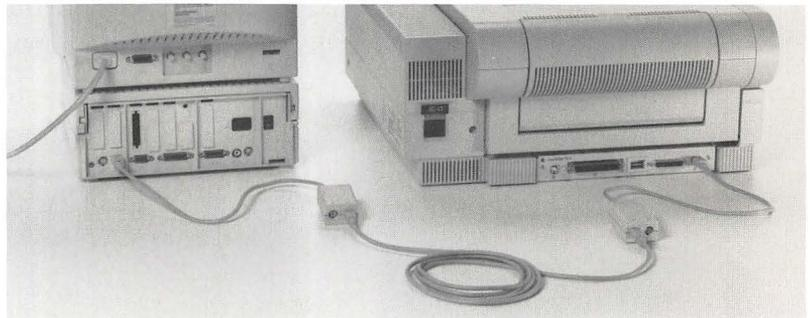

Figure A-1 Connecting an Apple IIGS computer
As shown in Figure A-1, the LocalTalk port is on the right side of the connector panel.
4. **Connect the two connector boxes with a LocalTalk cable. (See Figure A-1.)**